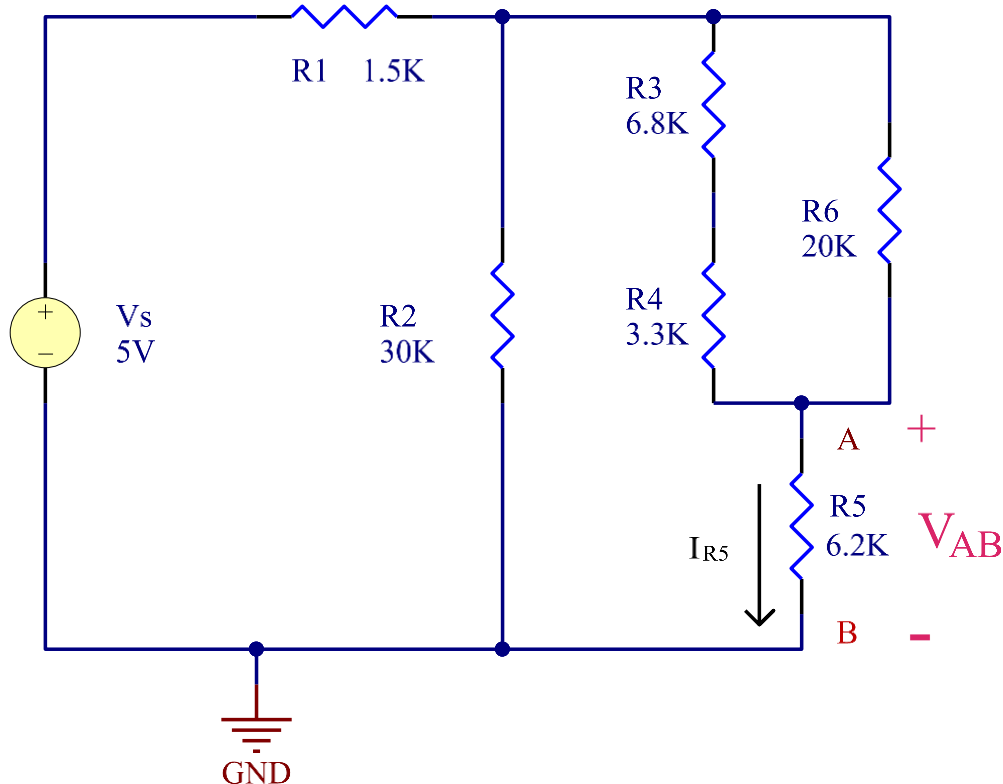

Figure 4: Not So Simple resistor circuit.
b) Build the circuit shown in Figure 4.
- Connect the 6V power supply terminal to the left side of R_1 as shown in Fig 4.
- Connect the COM power supply terminal to GND as shown in Fig 4.
6. Refer to Figure 4. Give the currents through R_1 , R_2 , R_3 , R_5 and R_6 when $V_s = 10V$ and $R_1 = R_2 = R_3 = R_4 = R_5 = R_6 = 1K\Omega$.